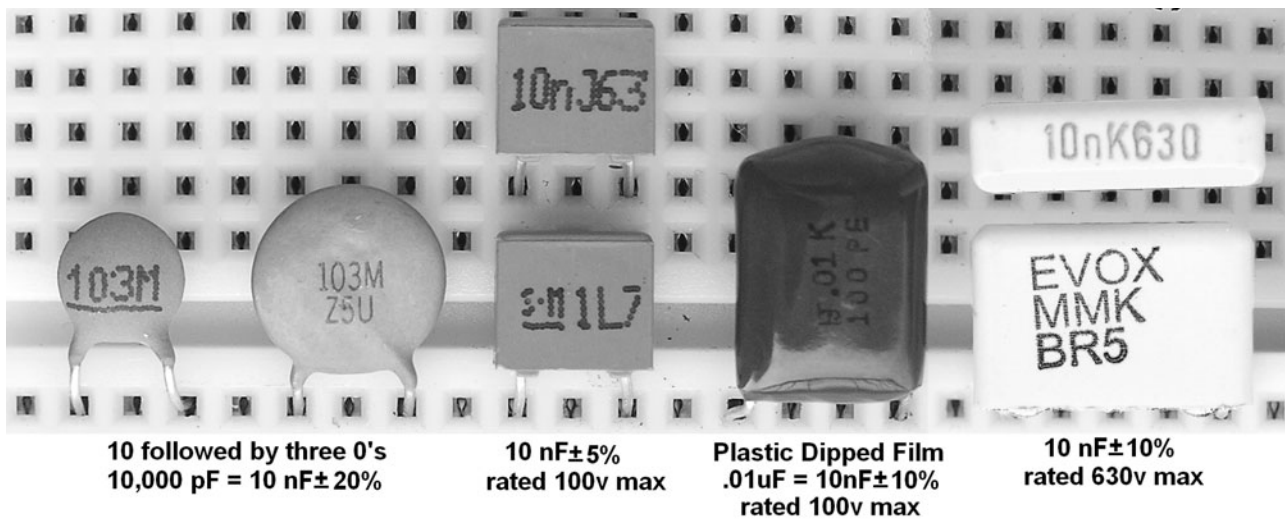

Figure B-2
- Disk capacitors dominate the picofarad range. They are usually made of two circular plates, dipped into ceramic material and baked. Good examples of both appear in Figure B-2.